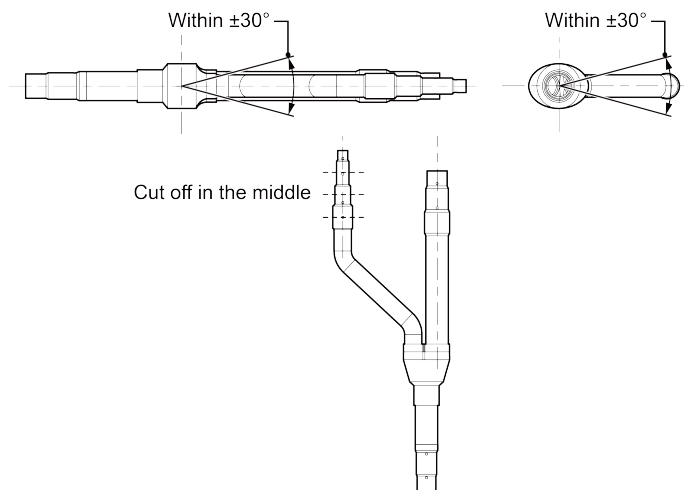

Fig.4.18
(2) Y-type branch has several pipe sections with different dimension, which facilitates to match with various copper pipes. Use pipe cutter to cut in the middle of the pipe section that is of proper dimension and remove burrs as well. See Fig.4.18.
(3) Y-type branch must be installed vertically or horizontally.